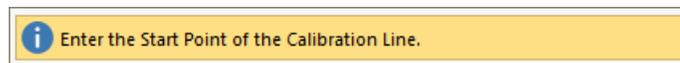

Figure 2-20
- Click on the *OK* button, the program will now be asking you enter the Start Point of the Calibration Line as shown in **FIGURE 2-20**.